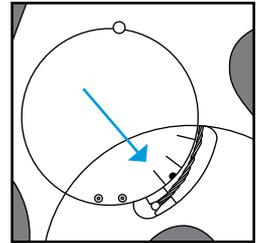

Figure 2
3. After removal of the cover plate check if the upper side of the lever arm (holding the satellite cable) is parallel to the lower of the three markers on the function unit (see Fig. 2).
11. Recheck the correct position (Mode 3) of the lever arm in the function unit of the joint (see Fig. 2).